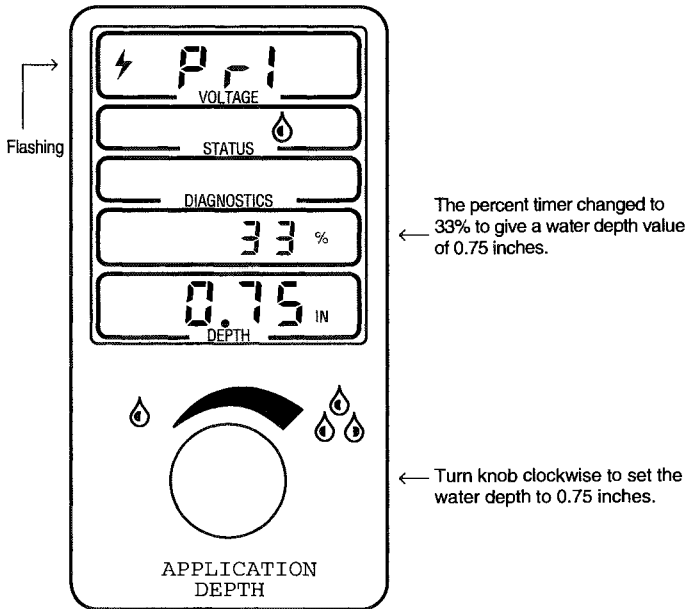

Figure 2.31
4. To set the water application depth to 0.75 inches for area #1, turn the "Application Depth" knob clockwise to increase the value to 0.75 inches as illustrated in figure 2.31.